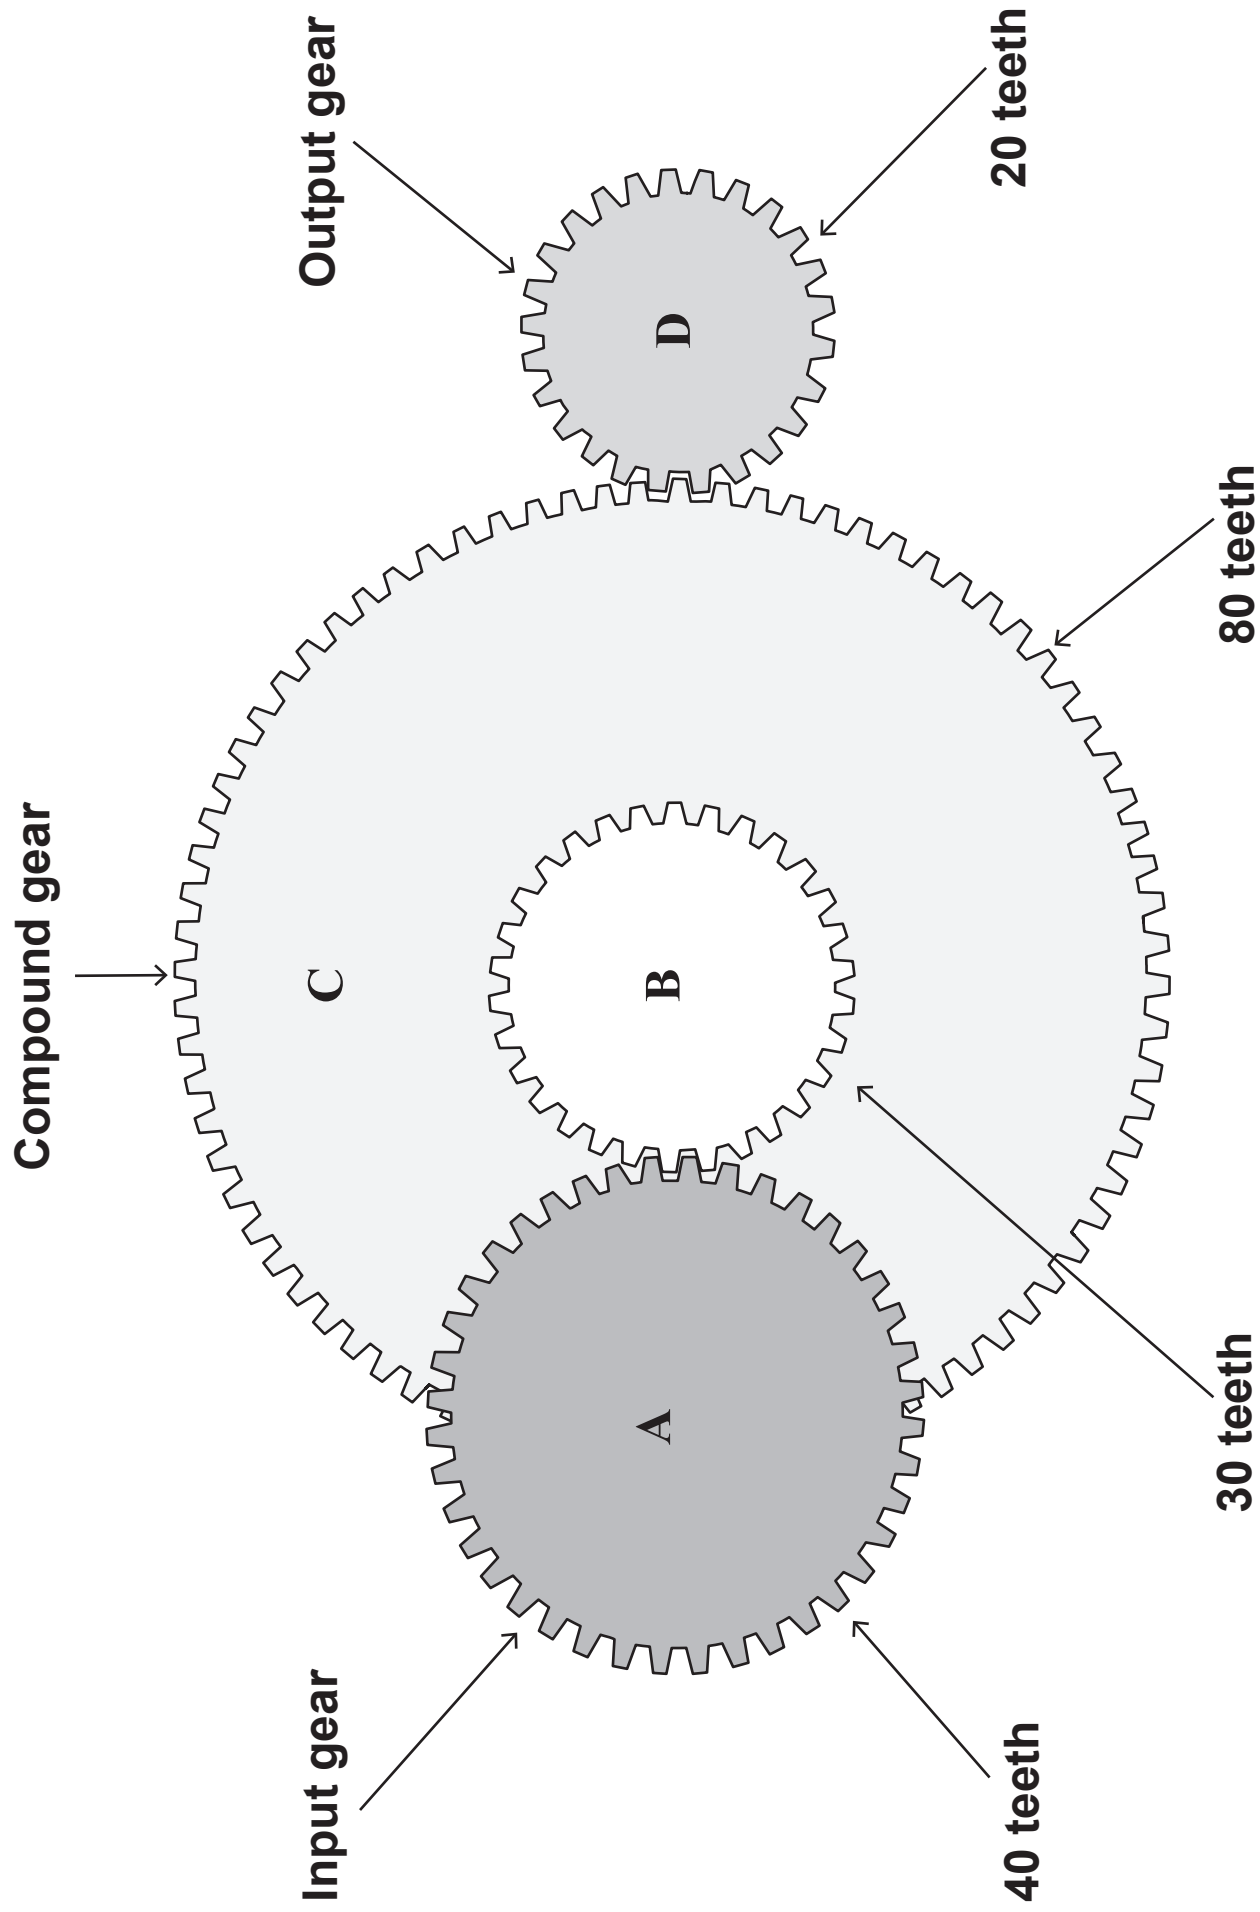

Fig. 3
- 3 (a) Fig. 3 opposite shows a diagram of a compound gear train. The input gear, A, has 40 teeth and the output gear, D, has 20 teeth. The compound gear consists of gears B and C which rotate together on the same shaft. Gear B has 30 teeth and gear C has 80 teeth.**